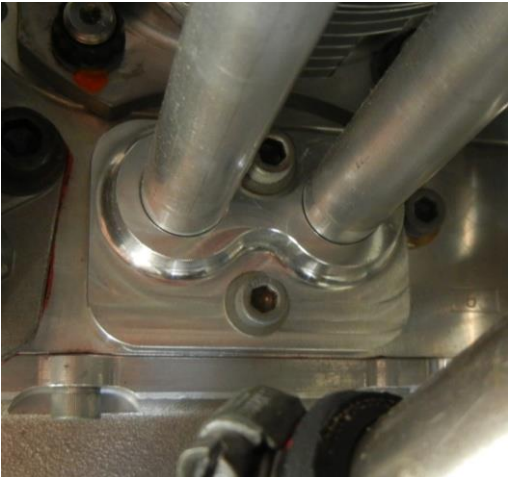
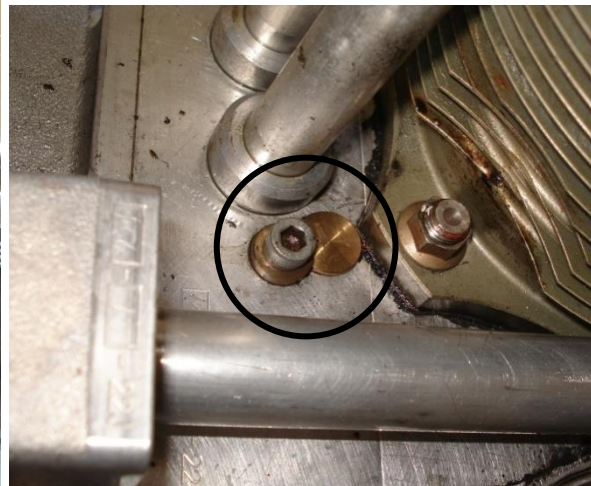

Figure 191 – Oil Return Manifold Fitted
Figure 196 – Rocker Lube (Left) & Crankcase Oil Port Blanking Plug
6. For roller follower models, the oil return manifolds can be fitted now. Fit new O rings and use a small amount of Loctite 515 to seal the manifold to the engine. Figure 191 shows the manifolds installed.
7. Fit the pushrod tubes (2) to the crankcase.
8. If the engine uses an external oil feed pipe this must be fitted between the cylinders. It should be fitted but the clamps not tightened until all the heads are fitted. For later specification engines which use the pushrod tubes to feed oil to the rocker gear this step is omitted. Note that if an engine has been converted from the external oil feed to the new hollow pushrod oil feed it will be necessary to fit blanking plugs to the old oil feed holes in the sides of the crankcase as shown in Figure 196. Solid lifter engines must use the external oil feed tube system.